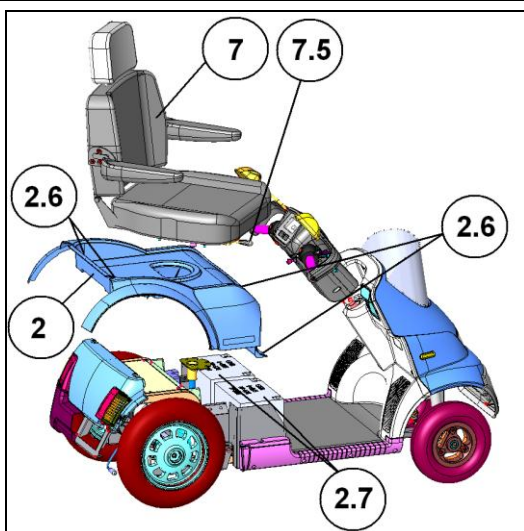

Figure 11
2. The numbers in parentheses refer to the parts illustrated in figure 11.